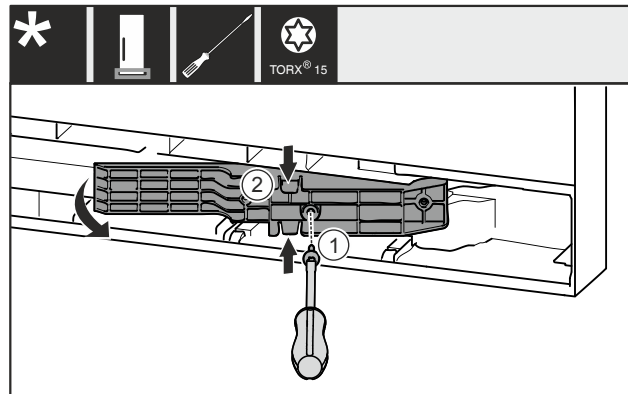

Fig. 13 *
- Remove the screw Fig. 13 (1)*
- Gently press the adapter piece Fig. 13 (2) together at the top and bottom and pull it out.*